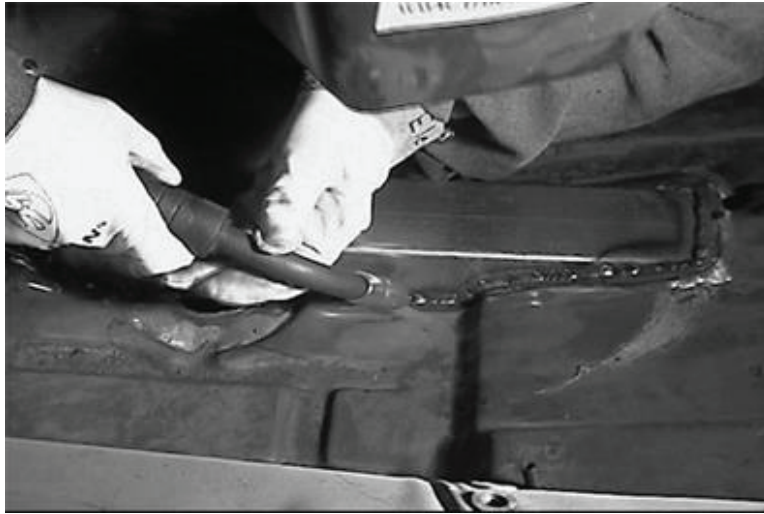

Figure 13
18. Next, weld the floor pan and rear frame rail to the connector; this should be done in short segments to avoid excessive heat build-up in the thin floor pan. The connector should be welded from both the top and the bottom of the floor pan (Figure 13).